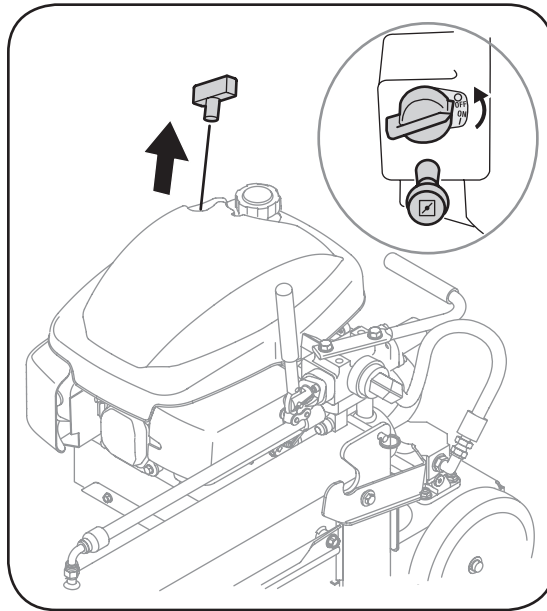

Figure 3-2
7. Make sure that the engine switch is off. See Figure 3-2. Prime the hydraulic pump by pulling the recoil starter as far as it will go. Repeat approximately 4-6 times.